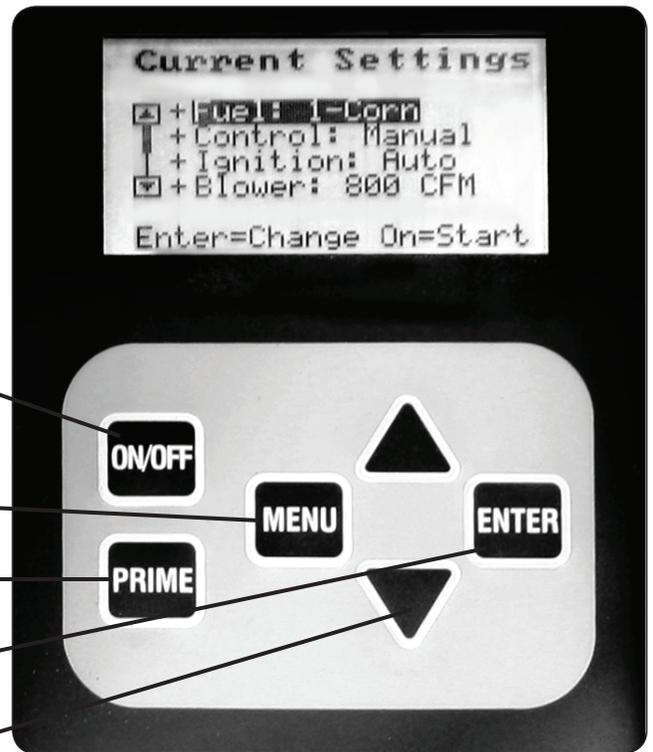

Figure 11
- The Control Board also has diagnostic capabilities to help in troubleshooting. The buttons on the board function as follows: (Refer to Figure 11)